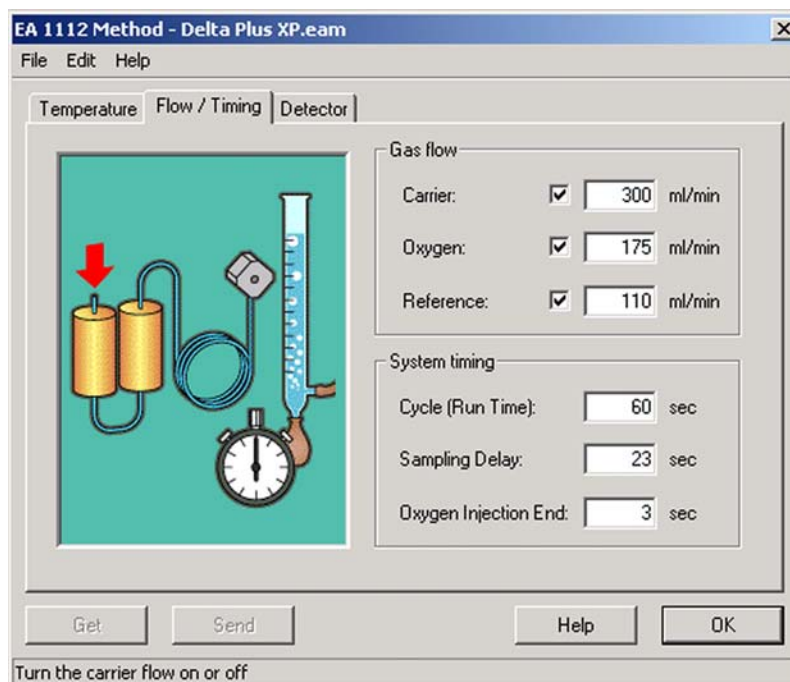

Figure 3-32. Settings for analysis - Flow/Timing Tab
3. Select the **Flow/Timing** tab. Set the parameters as shown in Figure 3-32.